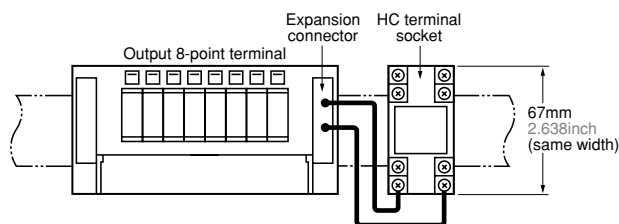
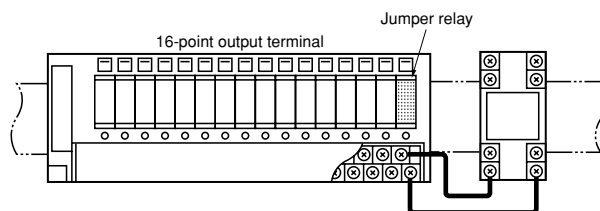

Fig. 1
Fig. 2
1) Install the heat sink according to the following drawing (Fig.1). Remove it according to the following drawing (Fig.2).
Installation (Fig.1)
Removal (Fig.2)
2) When the output terminal jumper relay is installed and the voltage output from a controller (PC etc.) is taken out to the terminal screw terminal, the PC terminal can be connected to the HC and HL terminal sockets (the effect is the same as Fig. 1).